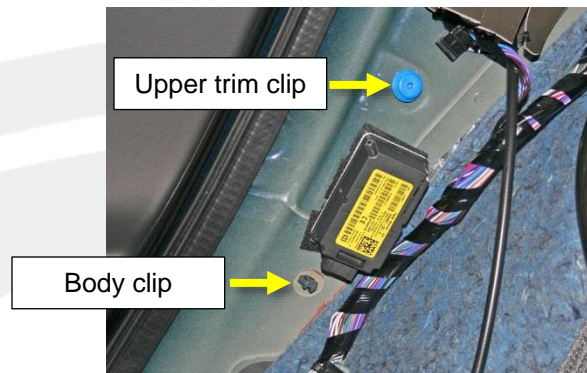

Figure 2
- c. Secure the ECU to the C-Pillar body between the upper trim clip and body clip (Figure 2).